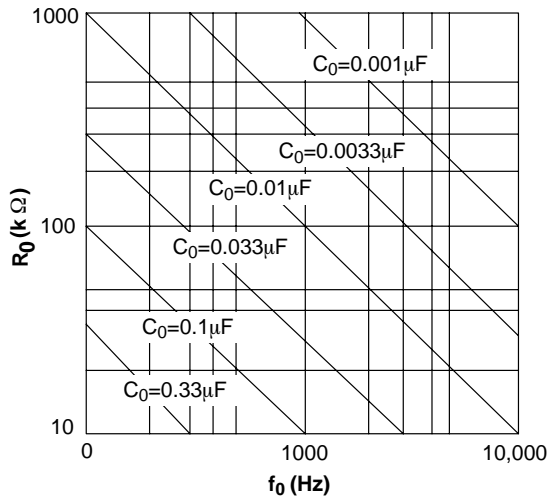

Figure 7. VCO Frequency vs. Timing Capacitor
- Calculate value of C_0 from design equation (1) or from *Figure 7*: